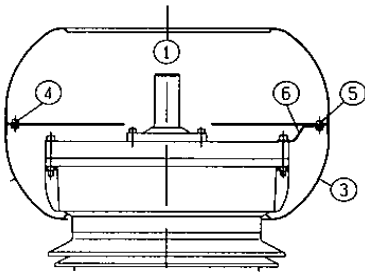

Fig. 10C
- Assemble the remained part of the shield on the bushing, supporting it on the three small plates (item 6 - fig. 10C).
- Add the shield's part 3, placing it on the 4th plate (fig. 10C).
- Fix all screws (item 4 – fig. 10C).